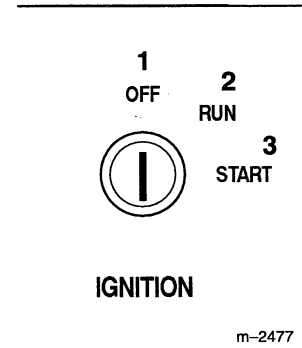

Figure 6
7. Turn the ignition key clockwise and hold it in the “START” position (Fig. 6). When the engine starts, release the key.
2. Turn the ignition key to “OFF” (Fig. 6).